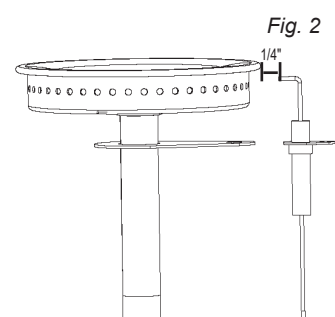

Fig. 2
- Check to ensure the igniter pin is properly spaced and aligned to the burner. Igniter pin should be approximately 1/4" from the burner and aligned to the top of a burner port (Fig. 2). Confirm spacing is correct by pressing the igniter button and ensuring spark occurs between igniter pin and burner.